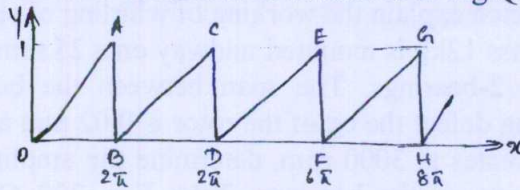

Fig.Q.1(b)
- b. Find the Fourier series for the saw-tooth curves as shown in Fig.Q.1(b). (10 Marks)